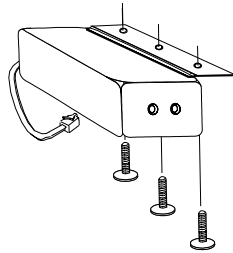

Figure 4-8: Installing the Headset Jackbox (BLN7074)
2. Install the operator and/or supervisor headset jackbox (Figure 4-8) in the location designated by the site manager. Ensure that the cable length is adequate to connect to the console electronics before mounting. Figure 4-1 shows a typical table installation.